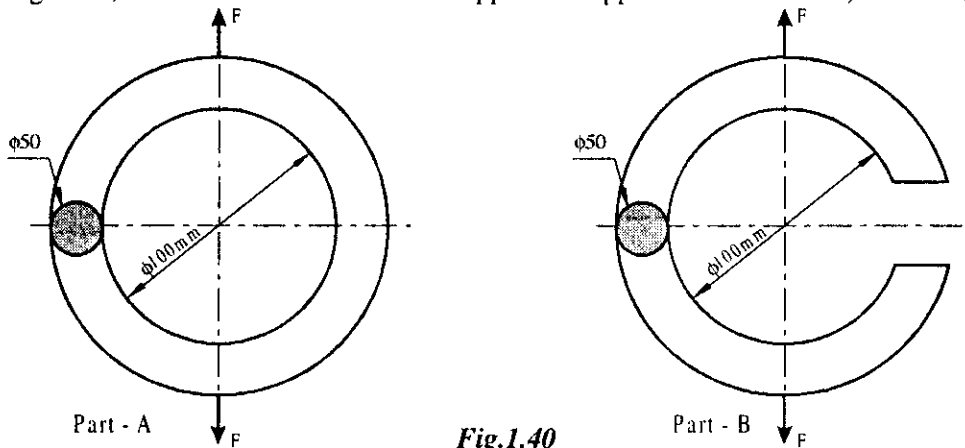

Fig.1.40
11. A closed ring is made up of 50 mm diameter steel bar having allowable tensile stress of 200 MPa. The inner diameter of the ring is 100 mm. For load of 30 kN find the maximum stress in the bar and specify the location. If the ring is cut as shown in part -B of Fig. 1.40, check whether it is safe to support the applied load. **VTU, Dec. 08/Jan. 09**